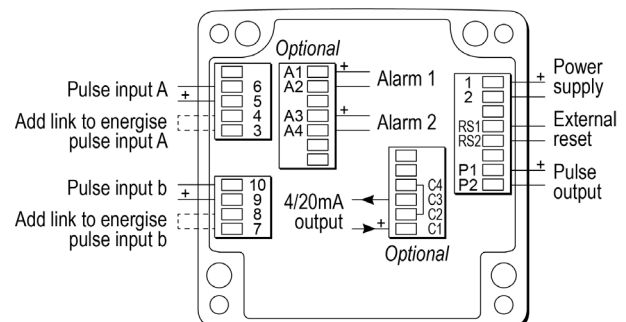

Fig 7 Dimensions and terminal connections
Field wiring terminals are located on the rear of the Counter assembly as shown in Fig 7.
- Connect the field wiring to the terminals as shown in Fig 7. Replace the instrument assembly on the back-box and evenly tighten the four 'A' screws.